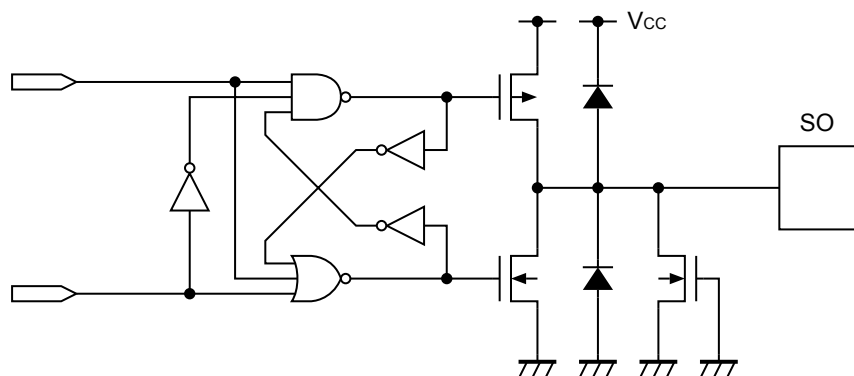

Figure 21 SO Pin
**Figure 21** shows the equivalent circuit of the output pin. This pin has the tri-state output of "H" level/"L" level/high impedance.